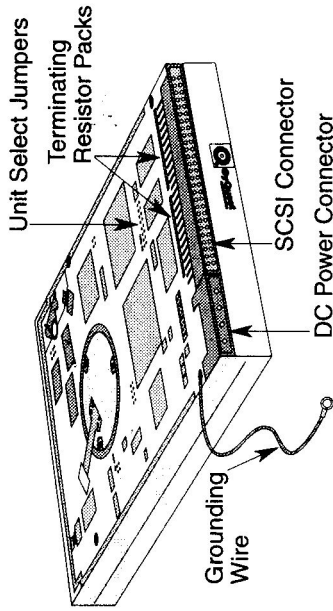

Figure 2. Locating Cartridge Disk Drive Components
2. Locate the DC power connector, SCSI drive connector, unit select jumpers, and terminating resistor packs, all shown in Figure 2.